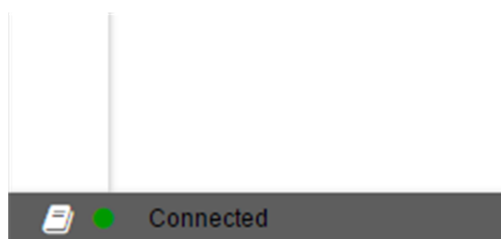

Figure 3. DRV8343x EVM GUI (Correct Connection)
- Step 8. When the GUI connects successfully, the status shown in Figure 3 is displayed. The bottom-left corner of the status bar displays a green indicator to indicate the connection is successful.